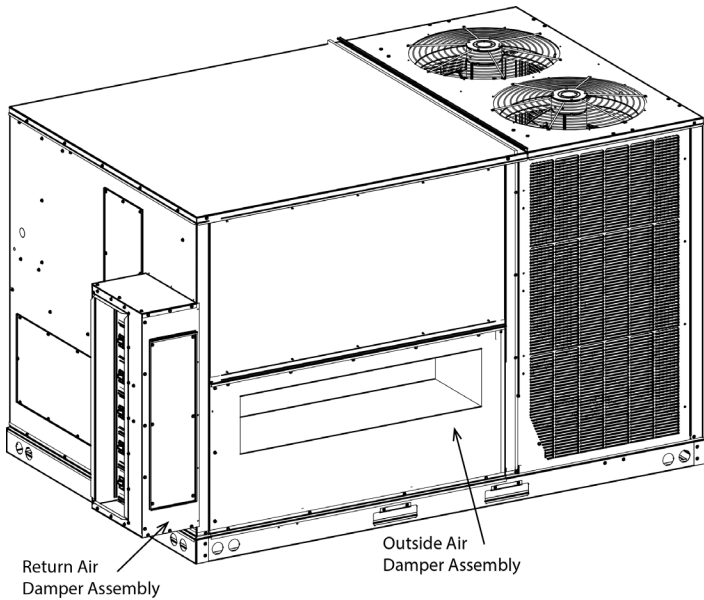

FIGURE 7 - MEDIUM DAMPER ASSEMBLIES
- Mount the return air damper assembly and the outside air damper assembly to the unit using screws removed in steps 3 and 4 (see Figure 7).